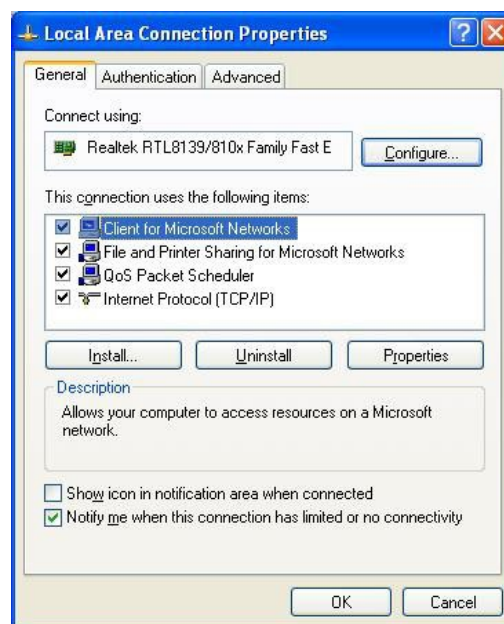

Fig. 3-4
Step 3: Click “Attribute”. (Fig. 3-4)